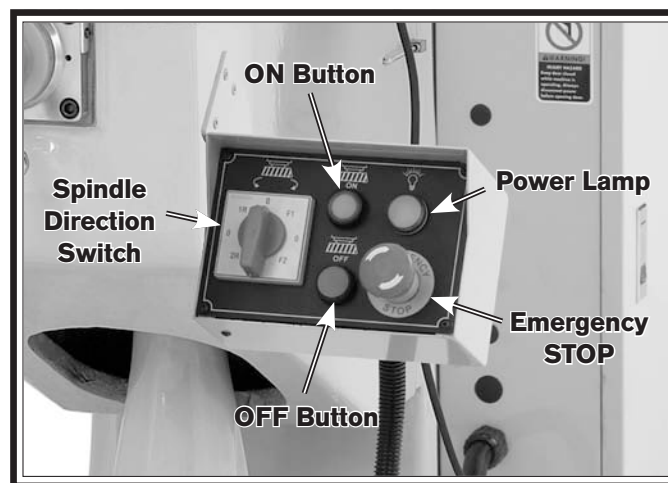

Figure 13. Model SB1025 control panel.
6. Push the emergency STOP button in (see **Figures 13–14**), then twist it clockwise until it pops out. When the switch pops out, the mill is ready for operation.